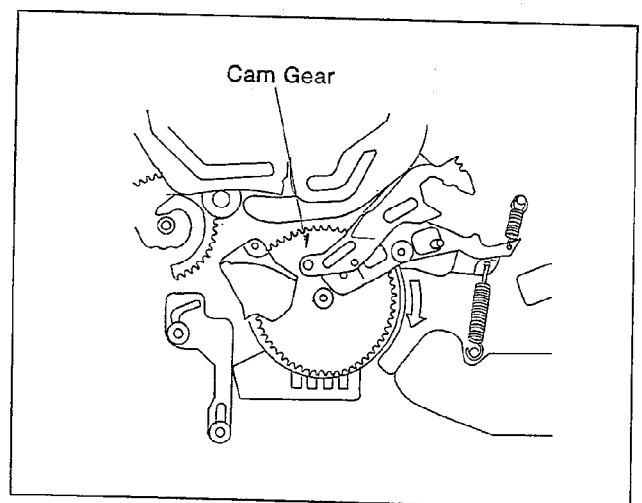

Fig. M19
- (2). When the installing of the Sector Gear is finished, turn the Cam Gear to clockwise that set the Mechanism to play position (loading end) as shown in Fig. M19.